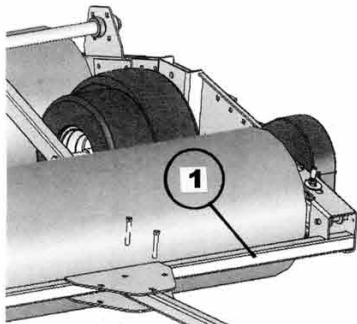

FIGURE 1.
- 1.....Assemble Tongue (# 3) to Frame (# 1) as shown using (2) 3/8-16 x 2 1/2" long carriage bolts with (2) 3/8 serrated lock nuts--fully tighten (fig. 1)
- 2.....Assemble Hitch (# 4) to Tongue (# 3) as shown using (4) 3/8-16 x 1" long hex bolts with (4) 3/8 serrated lock nuts--do not tighten at this point (fig. 1)